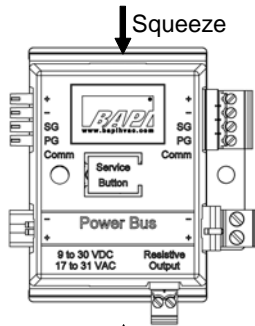

Figure 5: Remove Cover
1. An **Override** variable can only be bound in parallel with a previously trained **Setpoint** or **Temperature** output module. Train the **Setpoint** or **Temperature** output module as described above. Remove the Output Module's cover by squeezing the top and bottom of the cover as shown in Figure 5. Apply power to the receiver and output modules BA/(VOM,ROM,COM). **Note:** Loop power must be connected and turned on for current output modules, BA/COM.